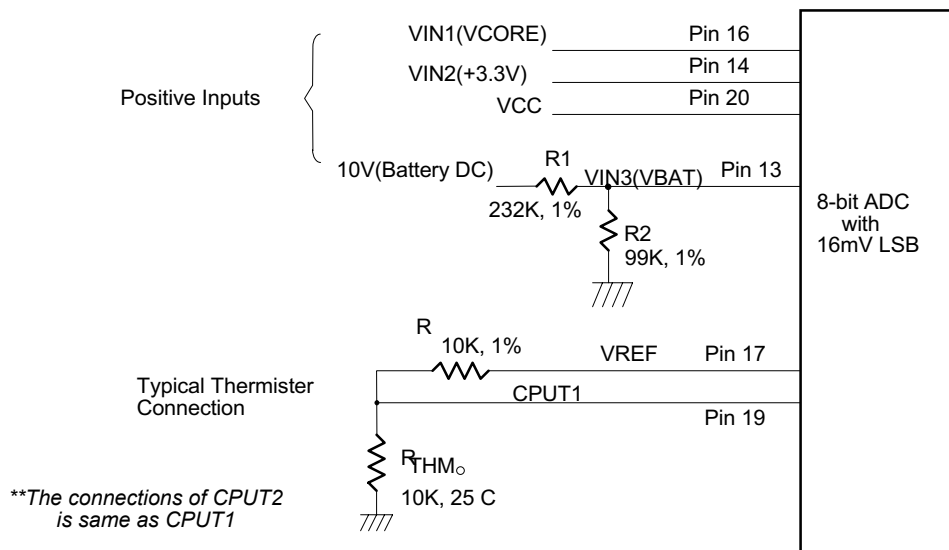

Figure. 10.
The maximum input voltage of the analog pin is 4.096V because the 8-bit ADC has a 16mV LSB. Really, the application of the PC monitoring would most often be connected to power suppliers. The CPU V-core voltage and +3.3V voltage can directly connected to these analog inputs. The 5VSB and battery inputs should be reduced a factor with external resistors so as to obtain the input range. As Figure 10 shows.
The W83L784AR can connect three thermistors to measure three different environment temperature. The specification of thermistor should be considered to (1) β value is 3435K, (2) resistor value is 10K ohms at 25°C. In the Figure 10, the thermistor is connected by a serial resistor with 10K Ohms, then connect to VREF (pin 17).